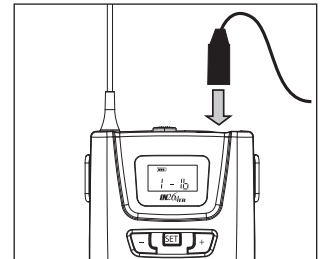

Figure 4
4. Plug the connector into the input socket of body-pack transmitter, then turn on the power for operation. (Figure 4)